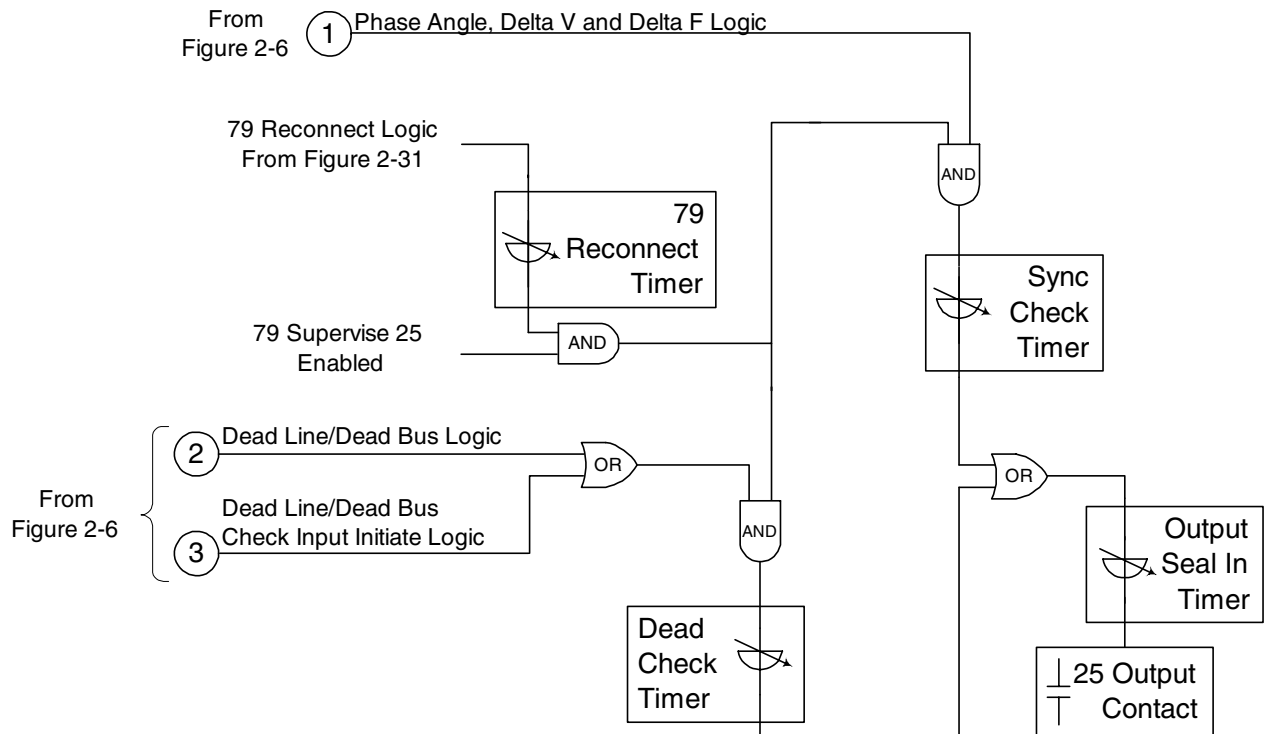

Figure 2-7 Function 25/79 Logic Diagrams
Input Enable screen, and both the Dead V1 and Dead V2 elements are enabled, the dead check timer will start when INPUT2 is activated, and either V1 dead/V2 hot or V1 hot/V2 dead. This allows for external control of the desired dead closing scheme. Dead Input Enable selections are common to all dead detection elements. If no inputs are selected under the Dead Input Enable screen, and any dead element is enabled, the dead check timer will start immediately when the dead condition exists. The logic diagram in Figure 2-7 shows enabling/disabling of the dead line/dead bus scheme through contact inputs.
Eventually, the dead line/dead bus check, phase angle check, delta volt and delta frequency checks all combine through their appropriate timers and are directed to the programmed 25 output relay. The overall logic of the Sync Check (25) function is shown in Figure 2-7.